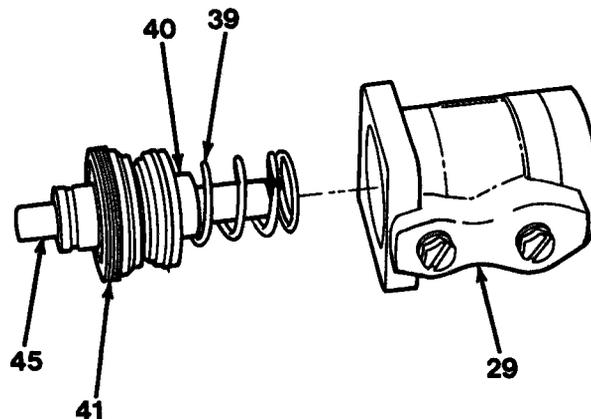
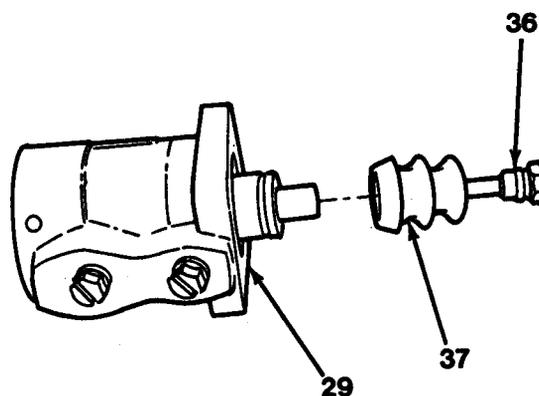

Figure 17-6
Figure 17-5
13. Install retainer (40) over piston assembly (45) and install spring (39) over retainer (40), Figure 17-6).
14. Install entire internal parts assembly into brake booster valve (29) housing bore. Use a spanner wrench to tighten end plug (41).
15. Install new boot (37) and push rod (36) into boot (37, Figure 17-5).